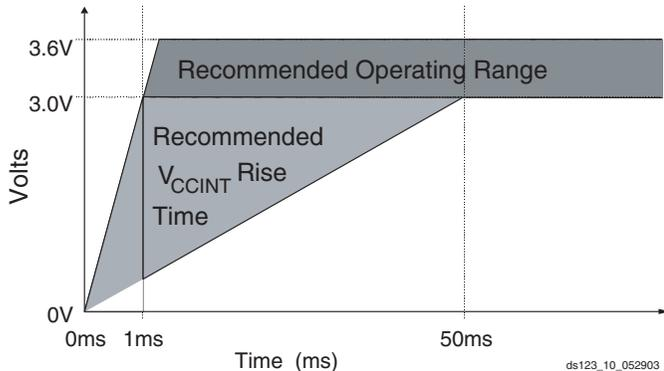

Figure 7: VCCINT Power-Up Requirements
On power up, OE/RESET is held low until the Platform Flash PROM is active (1 ms). OE/RESET is connected to an external resistor to pull OE/RESET HIGH releasing the FPGA INIT and allowing configuration to begin. If the power drops below 2.0V, the PROM resets. OE/RESET polarity is not programmable. See Figure 7 for power-up requirements.
- At power up, the device requires the  $V_{CCINT}$  power supply to monotonically rise from 0V to nominal voltage within the specified  $V_{CCINT}$  rise time. If the power supply cannot meet this requirement, then the device might not perform power-on-reset properly. See Figure 7.